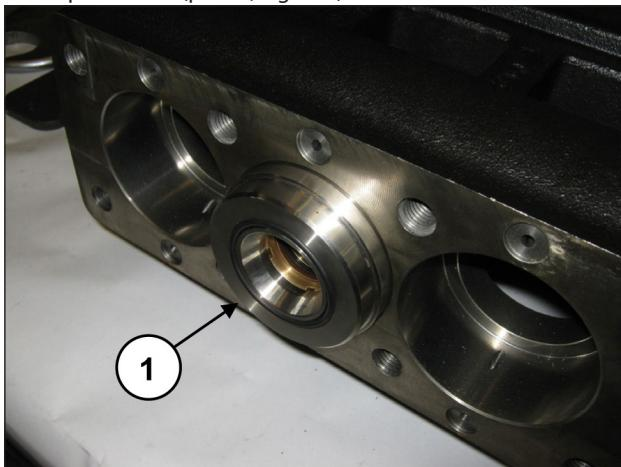

Fig. 172
Remove the seal support bottom O-ring should it remain inside the pump casing (pos. ①, Fig. 172).